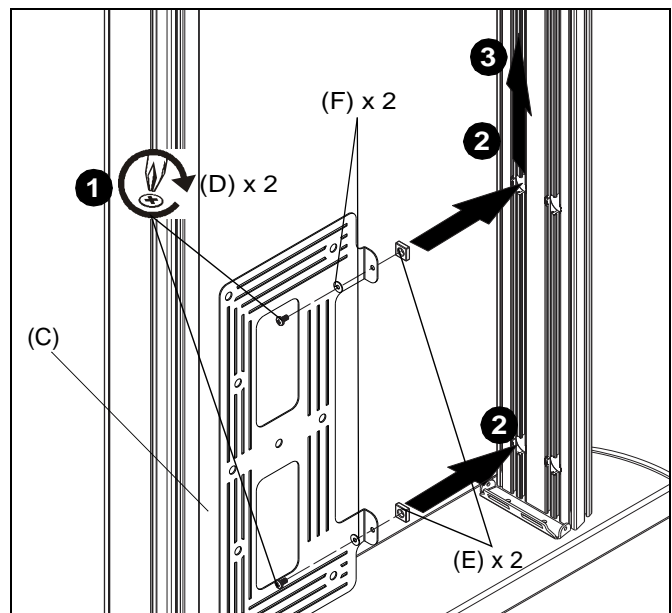

Figure 12
- Loosely install two #10-24 x 3/8" Phillips head machine screws (D) through two #10 washers (F), holes in component bracket (C) and into two #10-24 square nuts (E). (See Figure 12)
- Insert two #10-24 square nuts (E) into two openings on column channel. (See Figure 12)
- Lift component bracket (C) to desired mounting position. (See Figure 12)
- Tighten screws to a torque force of 10 ft-lbs. (See Figure 12)